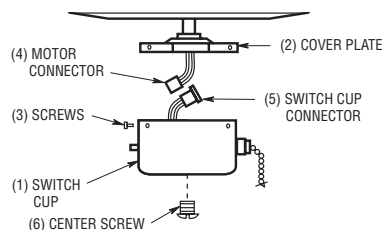

Figure 1
2. Remove the switch cup(1) from the cover plate(2) by removing the three screws(3) around the side of the switch cup (Figure 1).
3. Disconnect the motor connector(4) from the switch cup connector(5) (Figure 1).
4. Remove the center screw(6) from the switch cup (Figure 1).